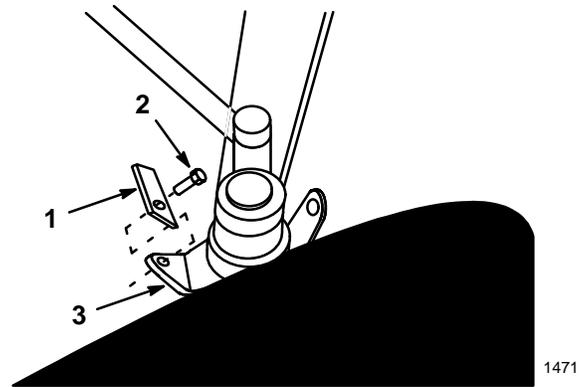

Figure 12
- Install steering spindle stops in front of the rear tabs on front wheel spindles (Fig. 12). Align so stops contact the axle during tight turns and prevent the wheels from contacting the blade frame. Secure with 5/16 x 3/4" self tapping bolt (Fig. 12).